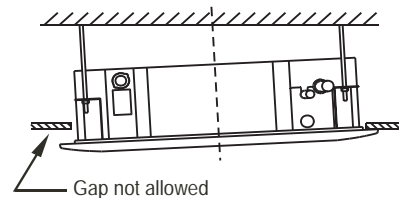

Fig.4-18
- 4) If the gap between the panel and ceiling still exists after fastening the screws, the height of the indoor unit should be modified again. (Refer to Fig.4-18)